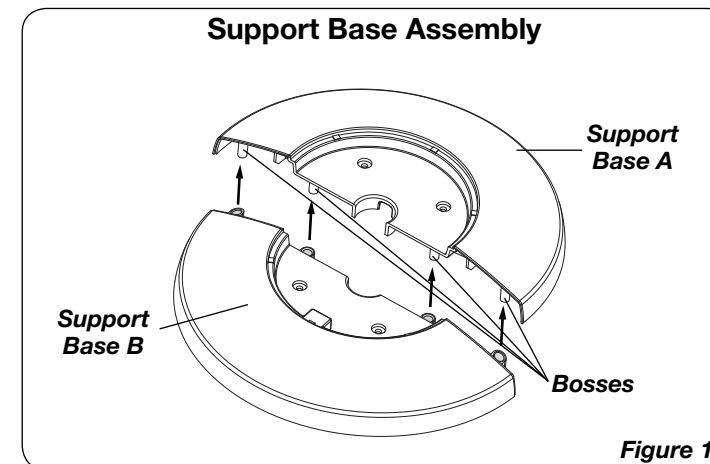

Figure 1
2. Assemble the Support Bases by interlocking the **Bosses** on **Support Base A** into the **Boss Holes** on **Support Base B**. Thread the **Power Supply Cord** through the large hole in the center of the Support Base Assembly. (Figure 1)